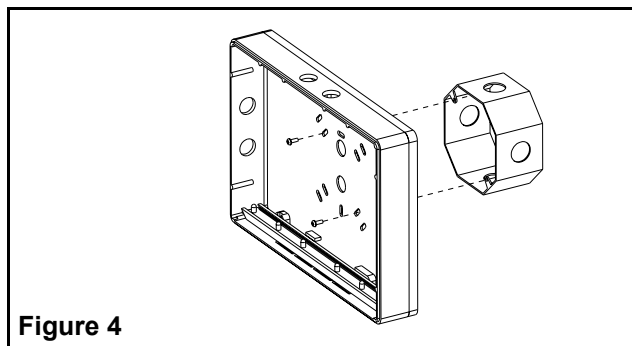

Figure 4
- d. Mount to the junction box with existing screws in the junction box (see fig. 4).